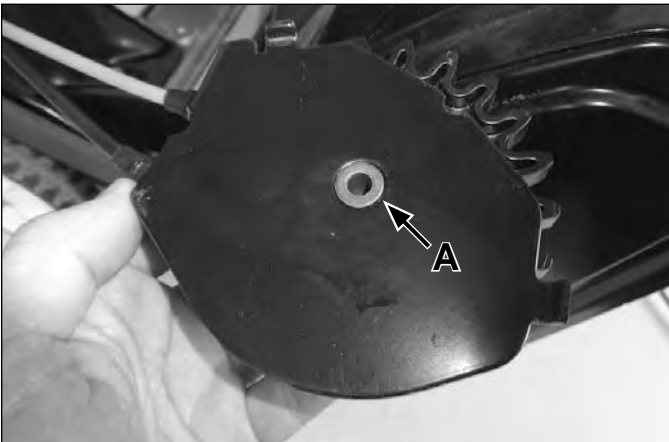

Fig. 022
2. Remove the complete assembly. Remove pinion spacer sleeve (A) Fig. 022).